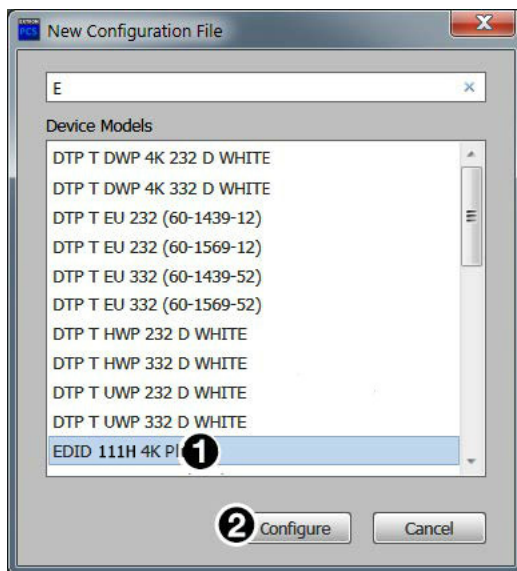

Figure 12. New Configuration File (EDID 111H 4K PLUS Selected)
The **New Configuration File** dialog box opens (see figure 12).
2. Select EDID 111H 4K PLUS from the **Device Models** list (figure 12, ①).
3. Click **Configure** (②). A new offline device configuration tab opens.